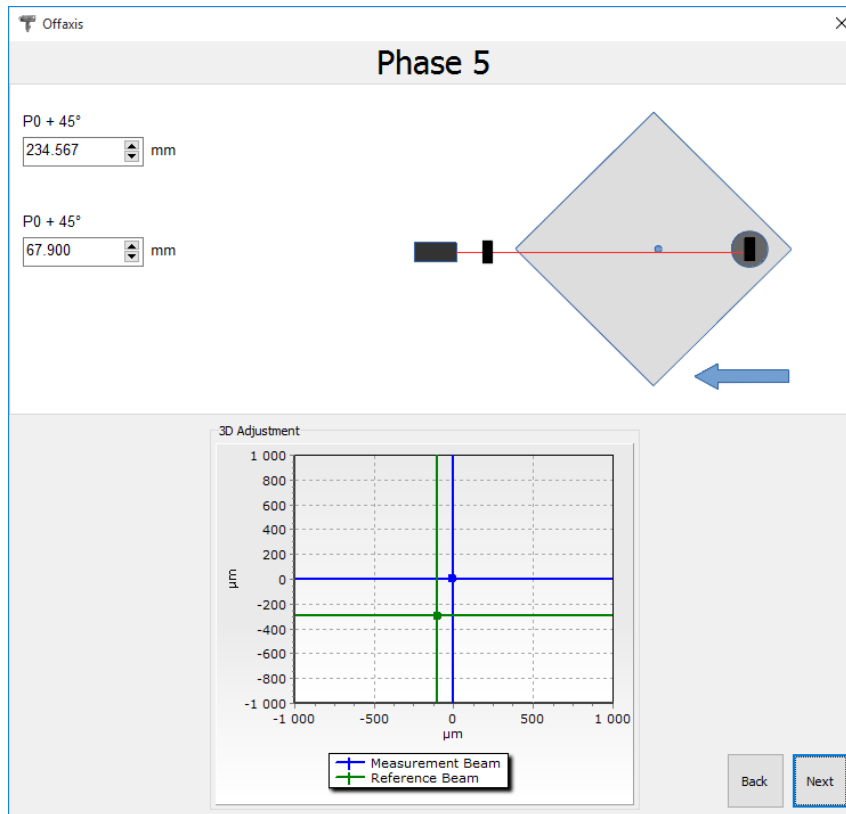

FIG.14.21. PHASE 5 OF THE OFF-AXIS PATH GENERATION
- 5) **Phase 5** – Machine is to be moved in the linear Aux axis until the distance between IK1 and RK1 becomes similar to the value during Phase 1. The required accuracy is <10 cm. The absolute positions of the machine in the Main and Aux axes are to be written into the $P0+45^\circ$ fields in the software – see figure 14.21.